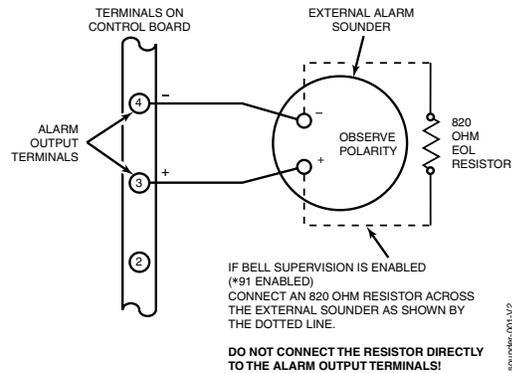

Figure 5. Sounder Wiring (Supervised)
1. Connect the supplied 820 ohm Bell Supervision EOL resistor across the terminals of the last sounder. See Figure 5.